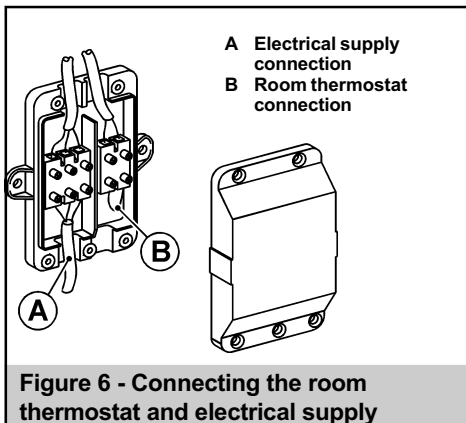

Figure 6 - Connecting the room thermostat and electrical supply
This is installed by removing the electrical junction box cover indicated in fig.6, (see fig.1 and 3, item 26), and connecting the two wires of the room thermostat, or zone valve control thermostat, to the low voltage terminals, (figure 6, item B). **NOTE: first remove factory installed jumper from terminals.** The room thermostat must always be located in a point of the house where the temperature is not subject to sudden changes.
**An electrical junction box (see figures 1 and 3, item 26) is provided for connections for both the line voltage of 115V 60 Hz (See figure 6 item A), and the room thermostat at low voltage of 24Vac (See figure 6 item B).**